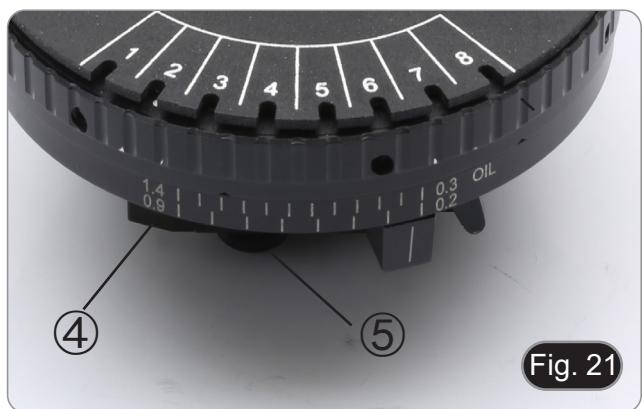

Fig. 21
2. Using the knob ④, insert the built-in polarizer into the condenser and loosen the polarizer rotation fixing screw ⑤. (Fig. 21)